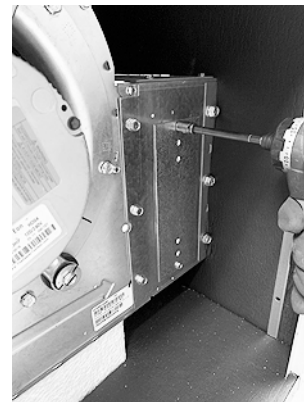

Fig. 7 Unscrew and Remove the Heater Collar Cover Plates
3. On the unit, unscrew and remove the heater collar cover plate. (See Fig. 7.)